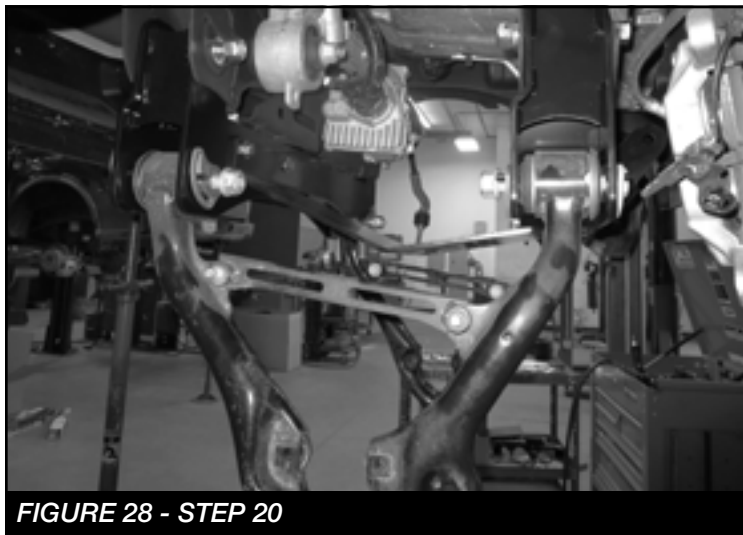

FIGURE 28 - STEP 20
20. Re-install the factory lower control arms to the pockets on the Fabtech crossmembers using the factory cam bolts. Torque the upper crossmember M18 hardware to 229 ft-lbs. Leave the lower control arm bolts loose. **SEE FIGURE 28**